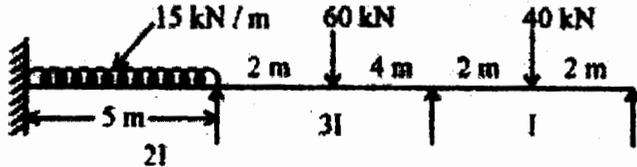

FIG : 1
- (a) Analyze the beam given in fig: 1 by slope deflection method and draw BMD.